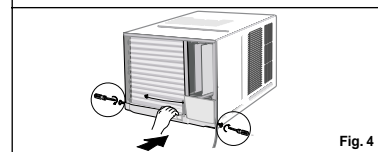

Fig. 4
5. Slide the chassis back into the cabinet. Reinstall the cabinet screws. Secure the cabinet to chassis by using screws. (See Fig.4)
4. Select the position that will place the sill support near the outer most point on sill (See Fig. 4)
5. Attach the sill support to the cabinet track hole in relation to the selected position using 2 Type A screws in each support (See Fig. 4).